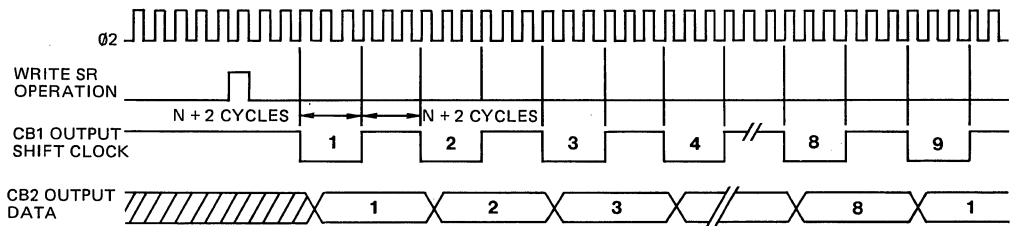

Figure 31. Shift Out - Free Running T2 Rate Timing
**Shift Out - Free Running at T2 Rate (100)** - This mode is similar to mode 101 in which the shifting rate is determined by T2. However, in mode 100 the Shift Register Counter does not stop the shifting operation. Since Shift Register bit 7 (SR7) is recirculated back into bit 0, the eight bits loaded into the Shift Register will be clocked onto the CR2 line repetitively. In this mode, the Shift Register Counter is disabled and  $\overline{IRQ}$  is never set. Refer to Figure 31.
**Shift Out - T2 Control (101)** - In this mode, the shift rate is controlled by T2 (as in mode 100). However, with each read or write of the Shift Register, the Shift Register Counter is reset and eight bits are shifted onto the CB2 line. At the same time, eight shift pulses are placed on the CB1 line to control shifting in external devices. After the eight shift pulses, the shifting is disabled, the Inter-